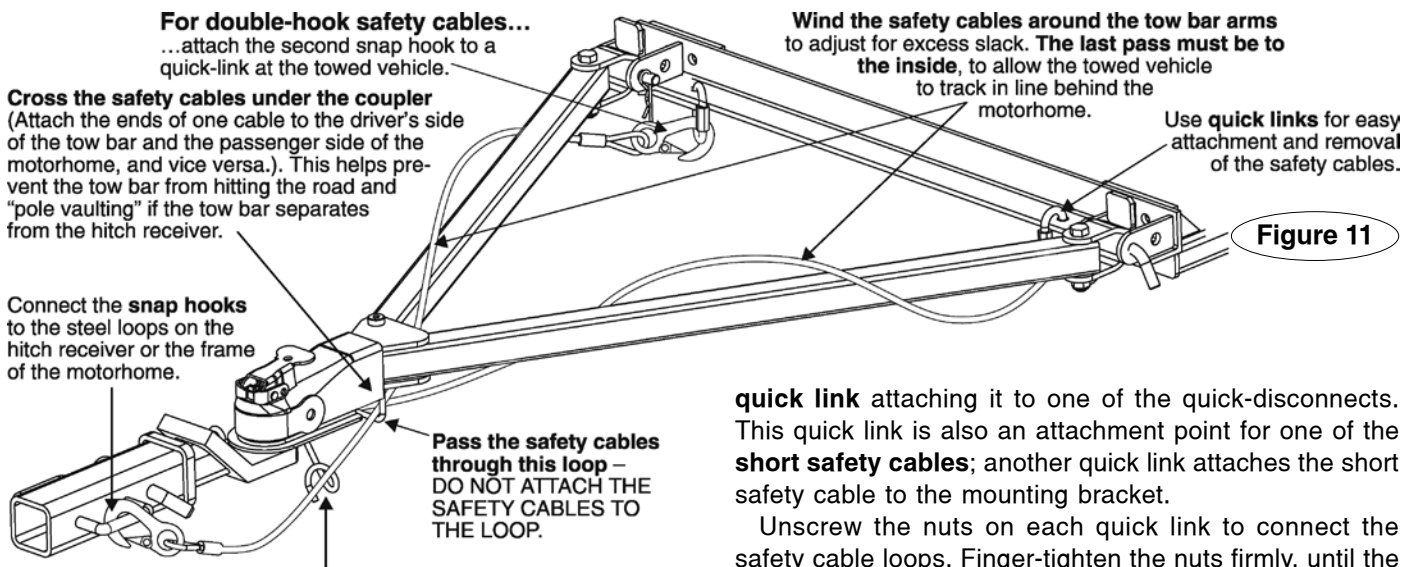

Figure 11
- Always cross the cables under the hitch receiver, as shown in Figure 11 under “Proper installation of safety cables.” In the unlikely event the tow bar separates from the motorhome, crossing the cables will help prevent the tow bar from dragging on the ground, which can cause the tow bar to “pole vault” the towed vehicle.
Follow the instructions in Figure 11 (above) to attach the safety cables.